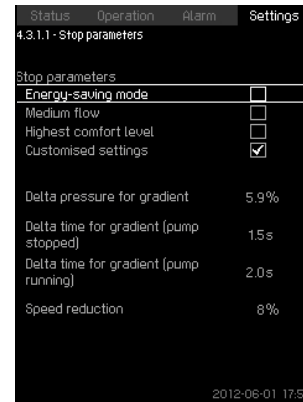

Fig. 71 Customized settings
- 3. Select one of the stop parameters. If you select "Customized settings", you must set the parameters shown in fig. 71. See the examples below.